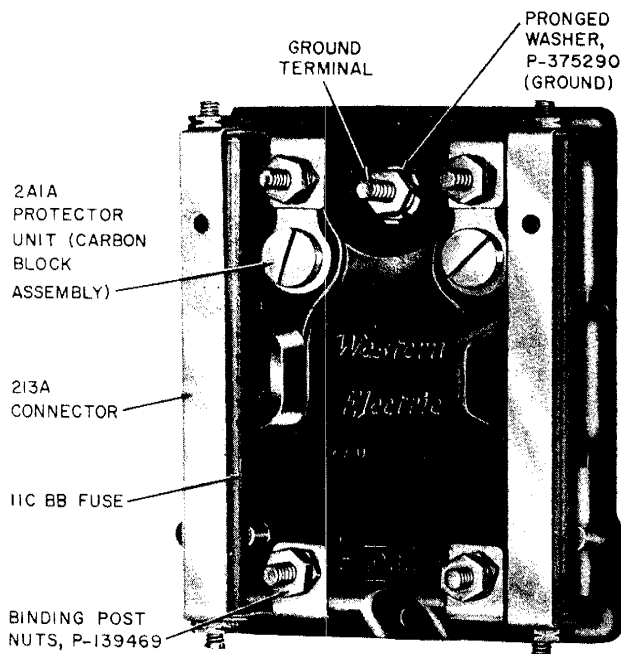

Fig. 7—106CA Protector
2.14 The 106CA Protector is a 106C Protector converted for fuseless operation by strapping out the 11CBB Fuses with No. 213A Connectors (Fig. 7). The 213A Connector is placed with the pilot hole toward the station end of the protector.